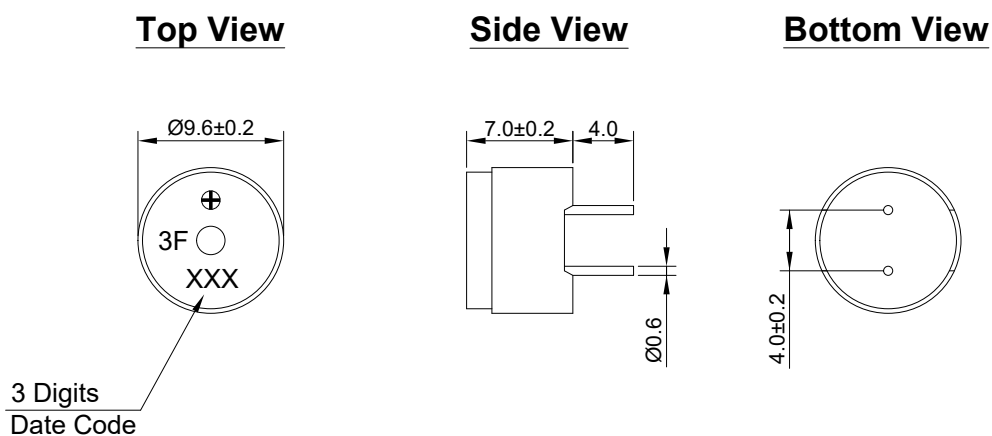

Figure 2. HC0903F/1325 Mechanical Layout
- 4.3.1. Layout and Dimension : See Section 6, Figure 2